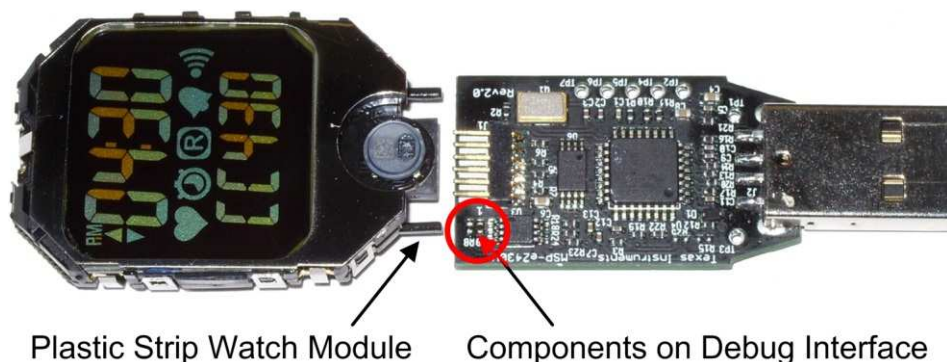

Figure 4-3. Chronos Watch Module Attached to eZ430-RF Debug Interface
- (1) Always remove battery before connecting to emulator preventing the battery from being charged.
- (2) Ensure to dispose the battery properly. Keep out of the reach of children. In case swallowed, contact physician immediately.
5. Connect to the emulator. The watch module and the USB connector need to be on the same side of the PCB as shown in Figure 4-3. Be careful when connecting the watch module, its small plastic strips can get stuck at components on the emulator.